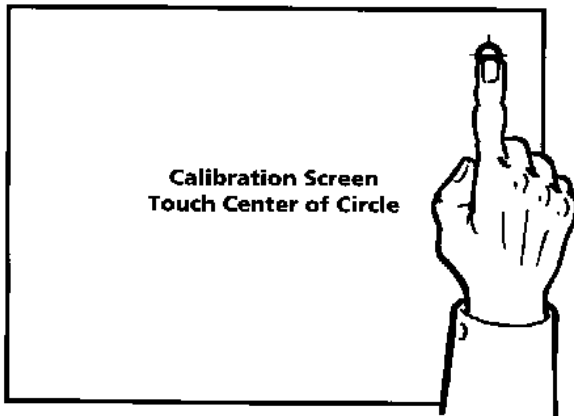
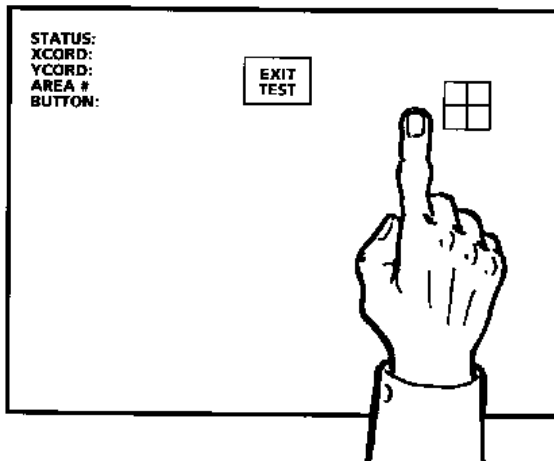

Figure 2a
Figure 2c
2. Go back to calibrate mode, but this time touch exactly on the center of the calibration dots, to more accurately calibrate the screen (see Figures 2a and 2b). You are now back in TEST SCREEN mode. **Touch the approximate location where the first dot appeared.** If the crosshair is not centered on your finger, note the direction and approximate distance which it is off center. Repeat this procedure **at the approximate location of the second calibration dot** (see Figures 2c and 2d). (If the crosshair is centered on your finger, the screen is calibrated accurately.)